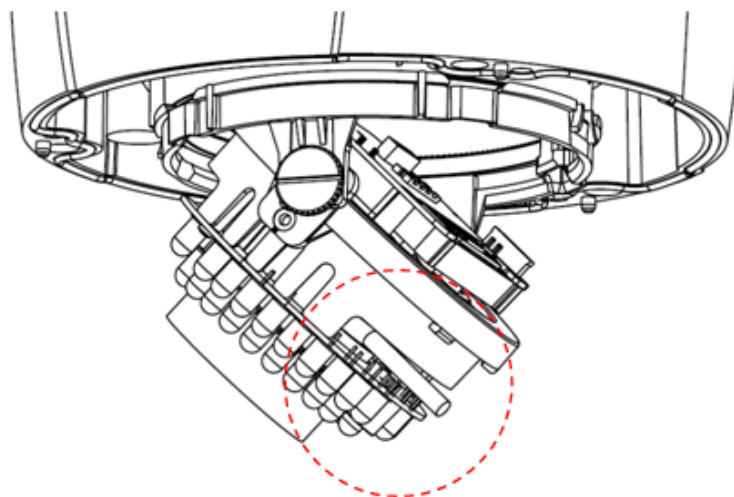

Figure 2-4
**Please note, the screws in the following figure are the optical adjustment component. Please make sure it is outward and do not allow it to touch the X-Y-Z axis module. See Figure 2-4**